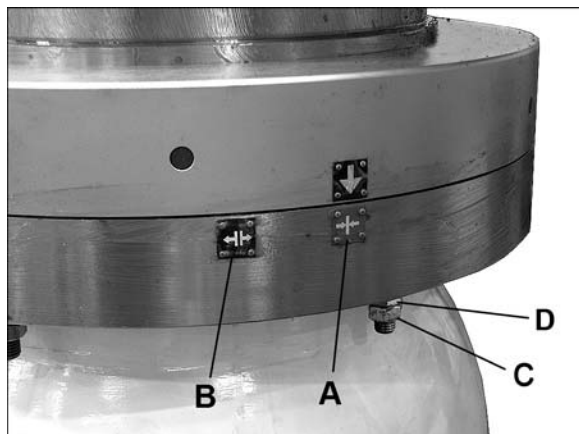

Figure 16: Clamp adjustments
Refer to Figure 16.
1. Press and hold *unlock button* (see Figure 10) until arrow (Figure 16) points to “B”. Release button. Clamping device is now disengaged.
2. Loosen the five *locking nuts* (C).
3. Turn the five upper *adjusting nuts* (D) counterclockwise approximately 180°.
4. Re-tighten the five locking nuts (C).
8. Release locking nut. (E, Figure 16).
9. Rotate adjustment nut (F) approximately 180° clockwise.
10. Retighten locking nut (E).